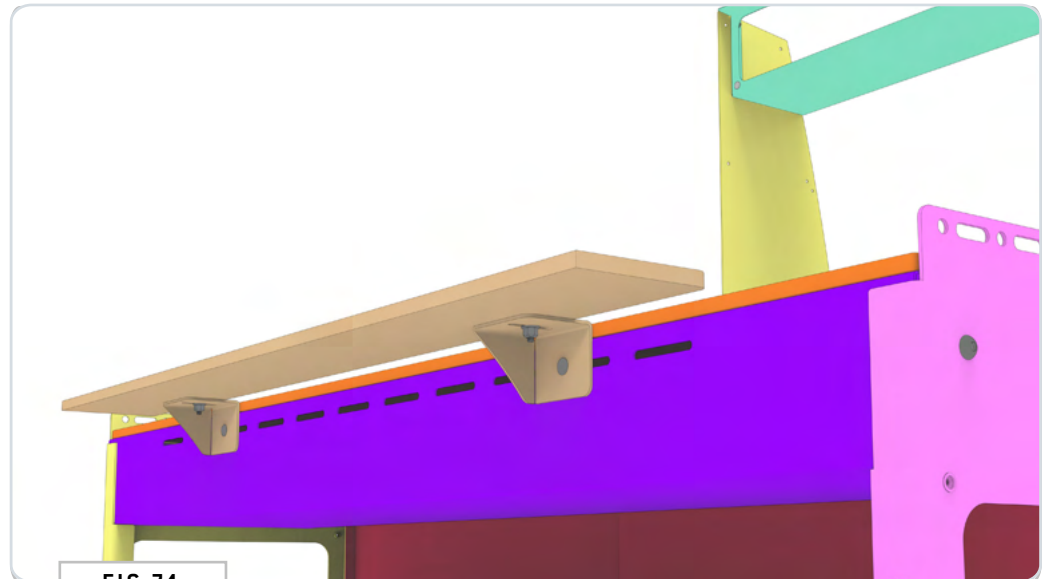
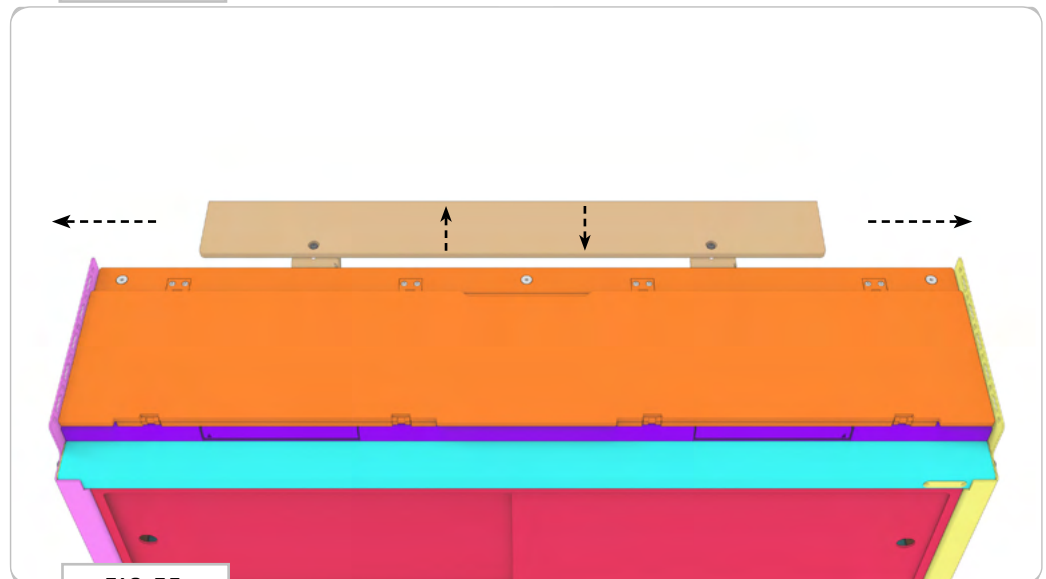

FIG 74
FIG 75
**5.6 Fit and Install Table Side Flare:** Loosely attach the **Table Side Cabinet Flare** in the orientation as shown to the **Rear Support** of the **Hinge Side Cabinet** using **(2) 1/4-20 x 0.75 Square Neck Carriage Bolts, Flat Washers and Nylon Locknuts (FIG 74)**. Adjust left, right, up and down until you're satisfied with the fitments and finish by securing all fasteners **(FIG 75)**.